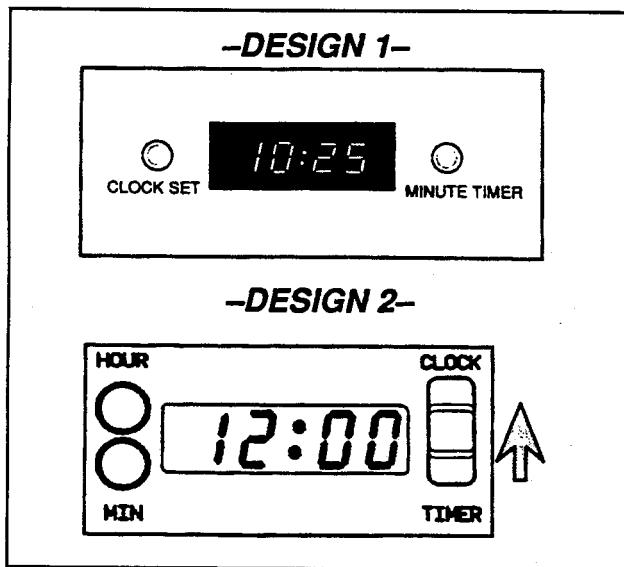

Figure 2-4
**Electronic Time of Day Clock** - Uses a mechanical thermostat and an electronic clock. To set the clock press the clock key until the indicator in the clock switch illuminates, use either slew key to set the time and then press any function key to exit the clock set mode, *see figure 2-4.*